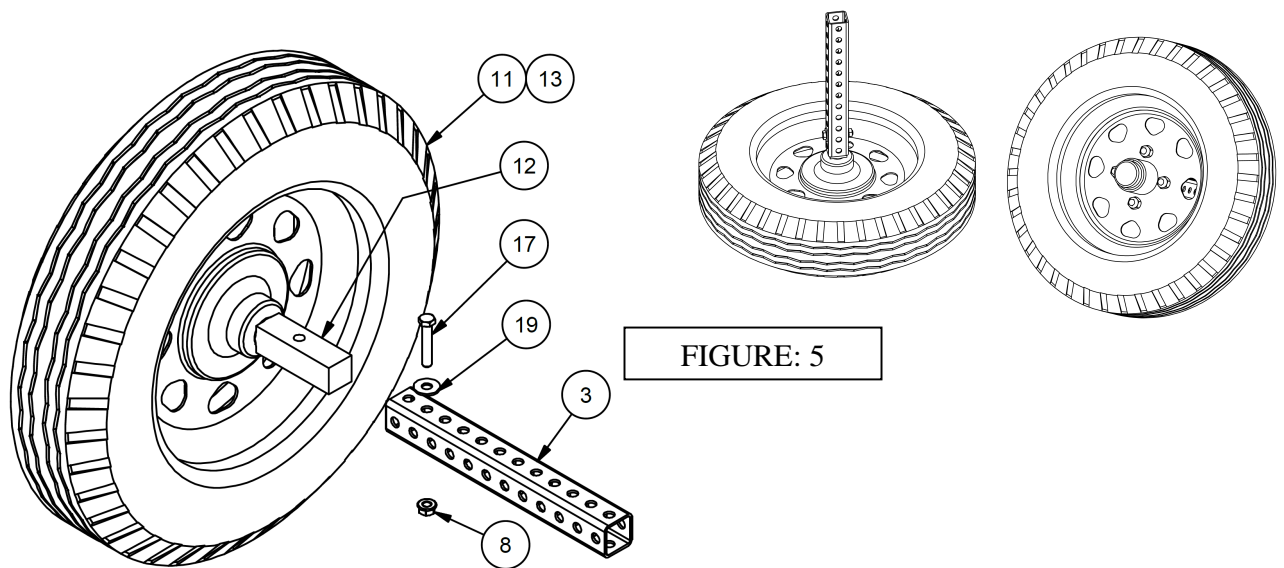

FIGURE: 5
- 1) Assemble the 4" wheel hub kit (13) and the tire wheel (11) using the lug nuts in the 4" wheel hub kit (13). Apply grease to the inside of the hub and the bearings. Determined the backside of the tire wheel and insert the bearing, washer, hub seal and 1.25" square BT8 spindle (12). On the front side of the tire wheel. Insert the bearing, washer, slotted hex nut and lock the 1.25" square BT8 spindle (12) with a cotter pin. Then apply the hubcap to finish the wheel assembly.
- 2) Attach the axle tube (3) to the wheel using hardware shown in the figure 5.
- 1) The mounting brackets for the tow tongue are to be installed on the first and second frame leg, from the tow end of the bleacher. The location of the brackets, side to side, needs to be determined. Since the bleacher has more weight towards the back rows, the location of the tongue needs to be shifted towards that side – not centered. On a 5-row bleacher, the tongue will be located to the right of the vertical support for the fourth row (see figure 5). To determine the proper location, lift and place the end frame on a jack stand or block of wood or concrete – located off the centerline towards the top row. **Make sure both wheels are blocked on both sides.** Move the stand or block from side to side until the load appears to be balanced. Mark this location.